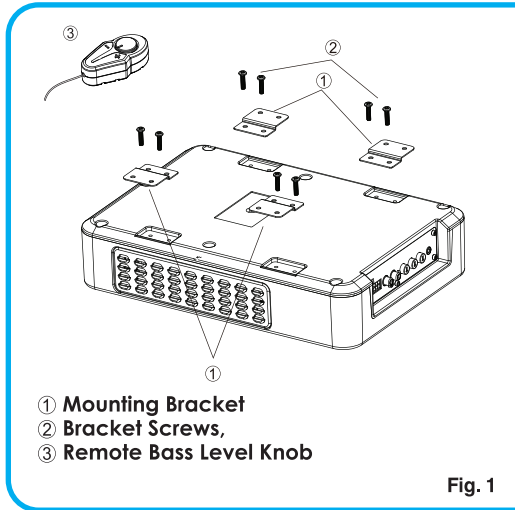
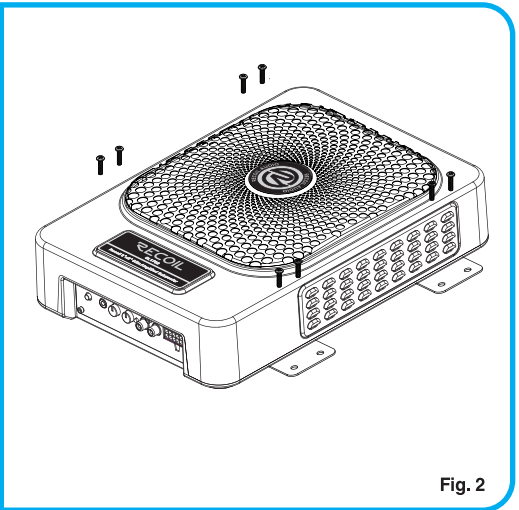

Fig. 1
Fig. 2
INSTALLATION (Fig.1) & (Fig.2)
1. Attach the included mounting brackets to the SL1789 with the supplied screws. (See to Fig. 1)
2. Once the brackets are mounted to the SL1789. Place the subwoofer in the desired location within the vehicle. Before securing with screws, check to make sure all screws can affix to a structurally solid surface while avoiding vehicle wiring, components, etc. (See Fig. 2)